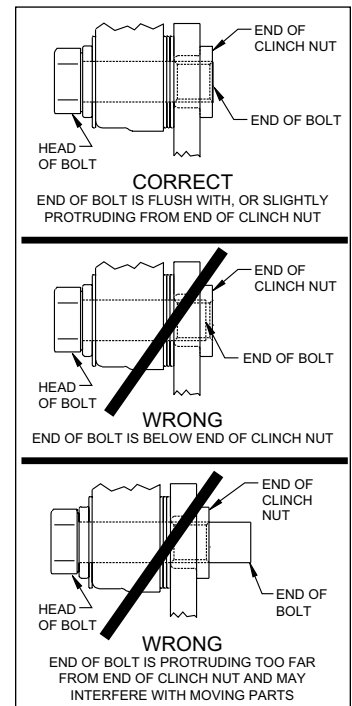

Figure 7. Clinch Nut Engagement Diagram
**CAUTION:** All mounting bolts must fully engage clinch nuts. Be sure to check that all bolts are either flush or protruding through flanged side of clinch nut after shimming, Figure 7.
the mounting bolts and view the rotor (4) through the top opening of the caliper. The rotor should be centered in the caliper, Photo 6. If not, adjust by adding or subtracting shims between the bracket and the caliper. Always use the same amount of shims on each of the two mounting bolts. **NOTE:** The end of each bolt must be flush with or slightly protruding from the head of the clinch nut, as shown in Figure 7. If necessary place spare shims between washer (6) and caliper mounting ear to achieve the proper clinch nut engagement. Once the caliper alignment and clinch nut engagement are correct, remove the bolts one at a time, apply red *Loctite*® 271 to bolt threads, and torque to 40 ft-lb.